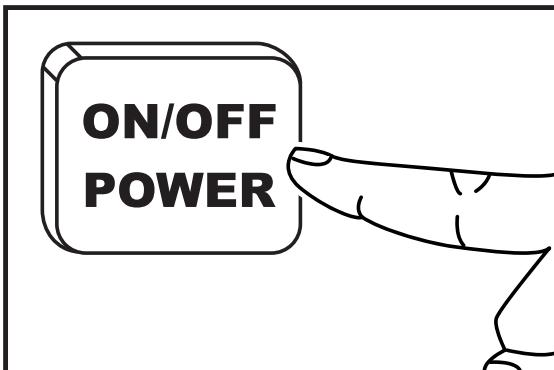

Fig. 9
- **4.1.5.** Press the “ON/OFF”/“POWER” button to switch on the appliance (Fig. 9).
- **4.3.1.** Press the “ON/OFF”/“POWER” button to switch off the appliance (Fig. 9).